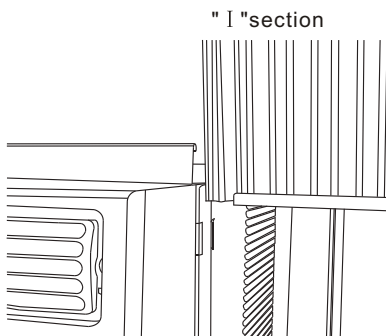

Fig.2
- Slide the free end "I" section of the panel directly into the cabinet as shown in Fig. 2. Slide the panel down. Be sure to leave enough space to slip the top and bottom of the frame into the rails on the cabinet.